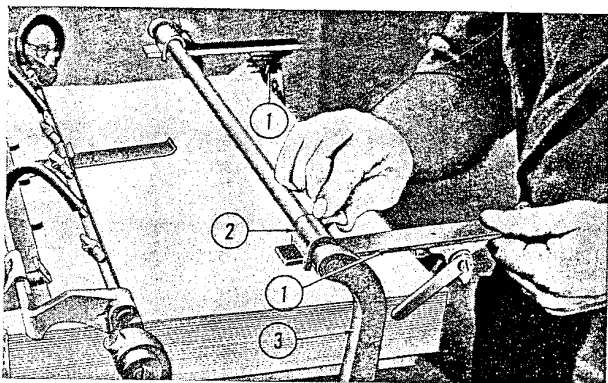

Figure 14—Setting Rear Corner Guides
(3) HOW TO SET REAR CORNER PILE GUIDES. (See figure 14.)—The rear corner pile guides (1) which serve to keep top sheets square on pile, should be set at rear corners of stock so that the sheets are held against the front pile guides but do not bind. By sliding the holders (2) along the bar to which they attach, or by shifting the guides in or out in their holders, or by turning the guides around so that they extend toward the front of the